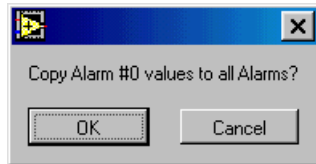

Figure 9-3. Copy Alarm Message Box
- **Copy Alarm #0 to All** — Click this option to copy the configuration settings of the top level alarm in this dialog box (in this case, the **Module to Module Communication** alarm settings) to all communication module alarms. Click **OK** in the message box (Figure 9-3) to confirm or click **Cancel** to cancel the operation.